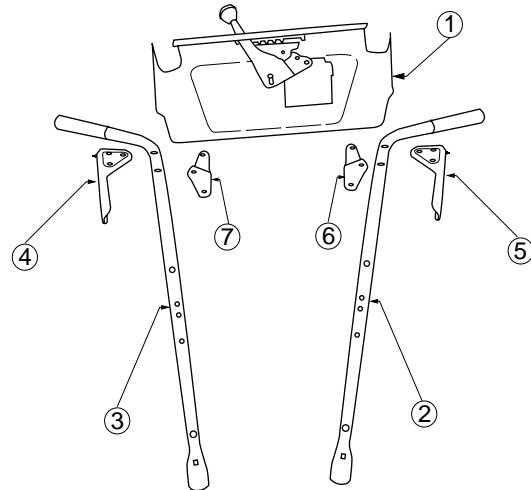

Figure 3
2. Locate auger control grip, part #4 in Figure 3. The triangular metal tab on the auger control grip must face the center of the handle panel. (Hardware D)